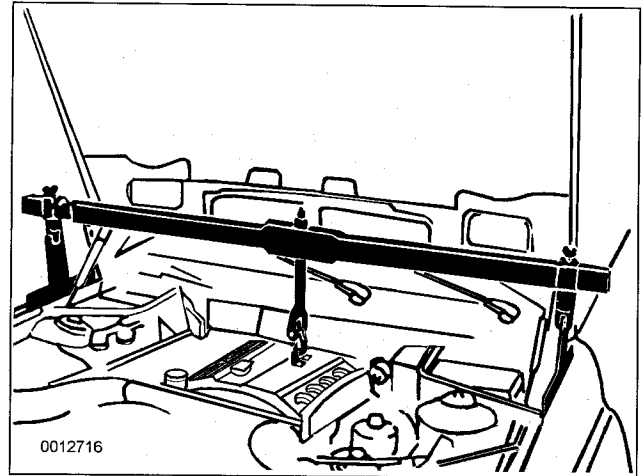

Fig. 11. Engine lifting equipment shown installed across engine.
9. Install engine lifting equipment at front engine lifting point and raise engine approximately 5 mm (¼ inch) until engine weight is supported. See Fig. 11.